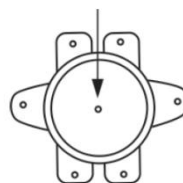

Рисунок 7
- Press the button located in the center of the thermal switch (round shape, near the heating element) until you hear a click, see Fig. 7;